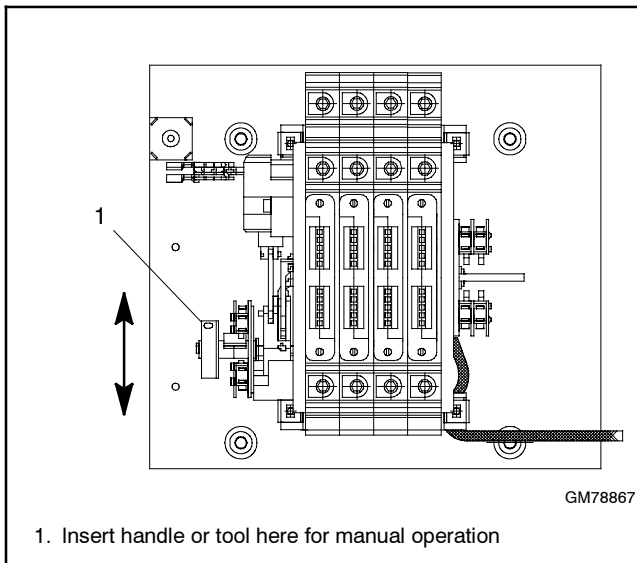

Figure 2-6 Manual Operation, 100-200 Amp 3-Phase Switches
2. Insert the maintenance handle or a tool (such as a screwdriver) into the hole in the shaft on the left side of the operator as shown in Figure 2-6 or Figure 2-7.